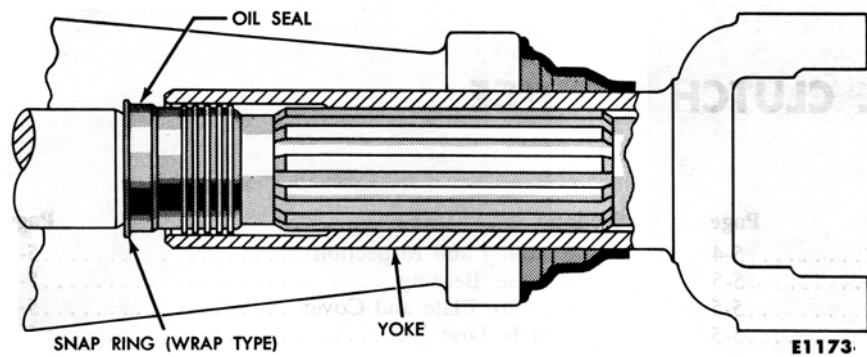

FIG. 4 Output Shaft Spline Seal
11. Lubricate the yoke spline with B8A-19589-A lubricant. This spline is sealed so that the transmission fluid does not "wash" away the spline lubricant (Fig. 4). Remove the tool from the extension housing. Install the yoke on the transmission output shaft.